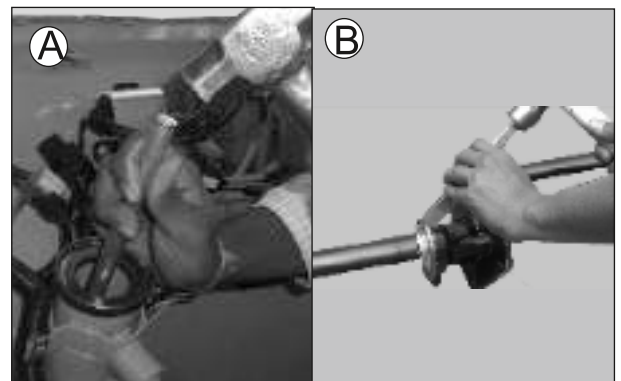

Fig. 5.34
- Similarly, draw out the outer race bottom fitted on the bottom end of the steering pivot tube using special tool (A). (Fig. 5.34)
- Remove inner race bottom and dust cover inner from steering column (B). (Fig. 5.34)